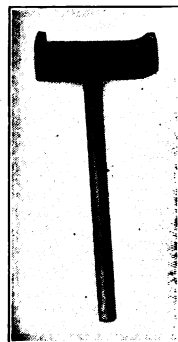

FIG. 51. WAGON WRENCH.
3. Bring both parts to a welding heat (at the same time) and weld. By placing the pin underneath the groove of the head and picking up the two parts together when removing from the fire, the welding may be made somewhat easier. The wagon wrench is shown in Fig. 51.